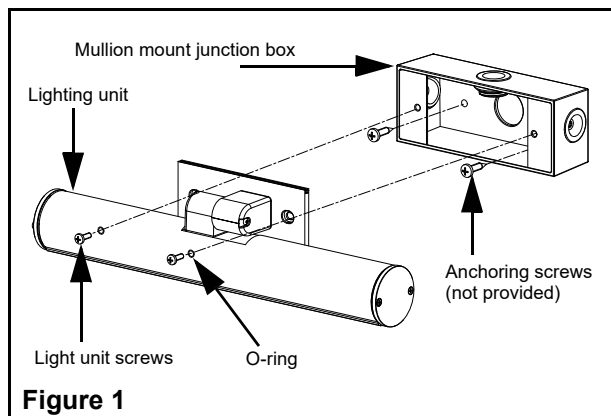

Figure 1
2. Remove lighting unit from junction box. (See figure 1)
4. Using proper anchoring system, install mullion mount junction box to solid surface. (See figure 1)